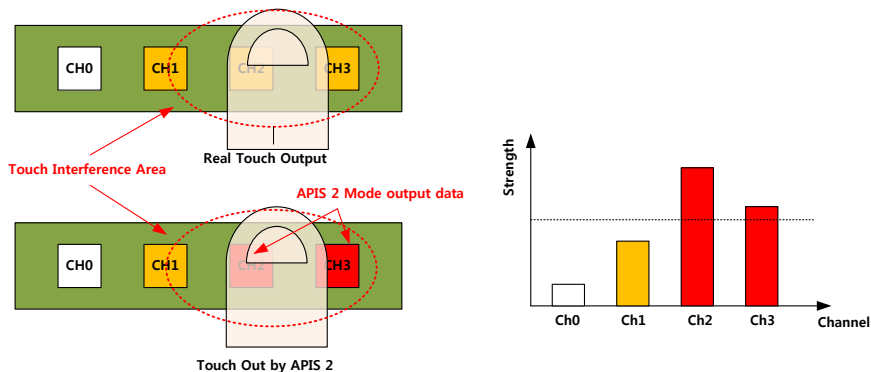

Figure 4: Operation of APIS Mode 2
- APIS mode 2:** reports all outputs that exceeds pre-defined thresholds (value of Strength Threshold register) (Figure 4).